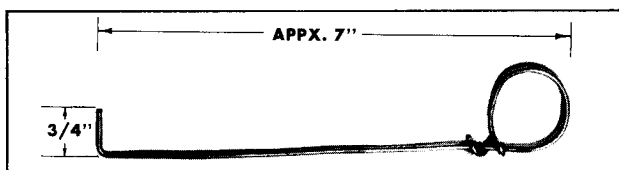

FIGURE 1
1. Remove the top screen track using a reasonably stiff wire shaped to form the tool shown in Figure 1. Insert the tool at the outer end of the screen track and pull the track from the window frame assembly, Figure 2.